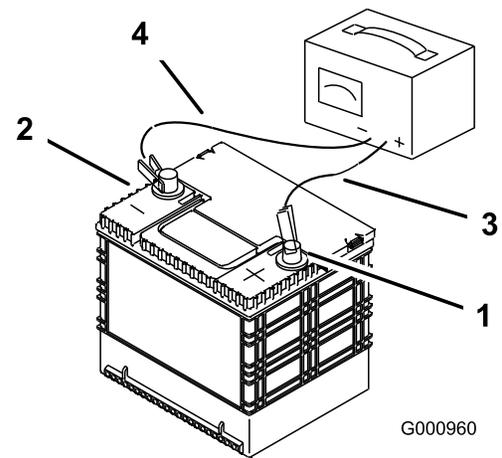

Figure 74
2. When the battery is fully charged, unplug the charger from the electrical outlet, then disconnect the charger leads from the battery posts (Figure 74).